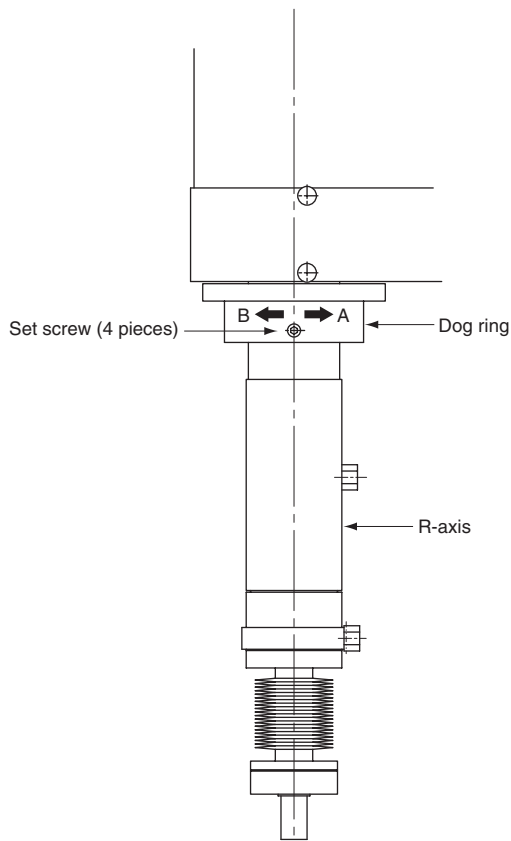

Fig. 4-8 Adjustment of R-axis machine reference
- 8) Using a hex wrench, loosen the set screws (4 pieces) securing the dog ring to the R-axis joint. (See Fig. 4-8.)
- 10) Tighten the set screws to secure the dog ring. Rotate the R-axis by hand to check that the dog and sensor do not come in contact with each other. (See Fig. 4-8.)